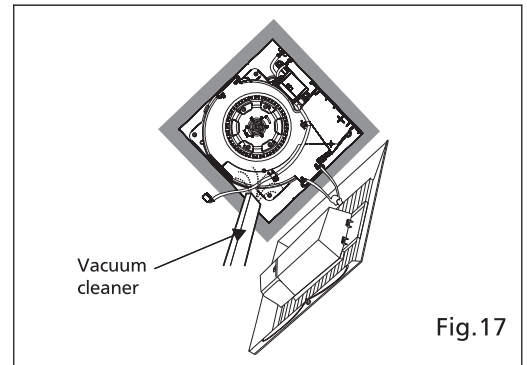

Fig.17
3. Remove dust and dirt from fan body using a vacuum cleaner.(Fig.17)